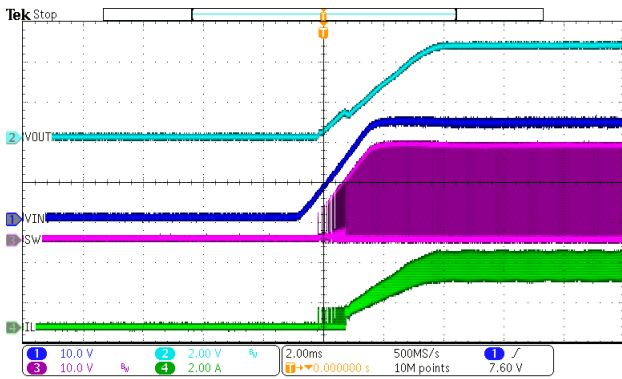

Figure 14. Power Up
The SCT9336 features external programmable output voltage by using a resistor divider network R_1 and R_2 as shown in the typical application circuit Figure 14. Use equation (11) to calculate the resistor divider values.